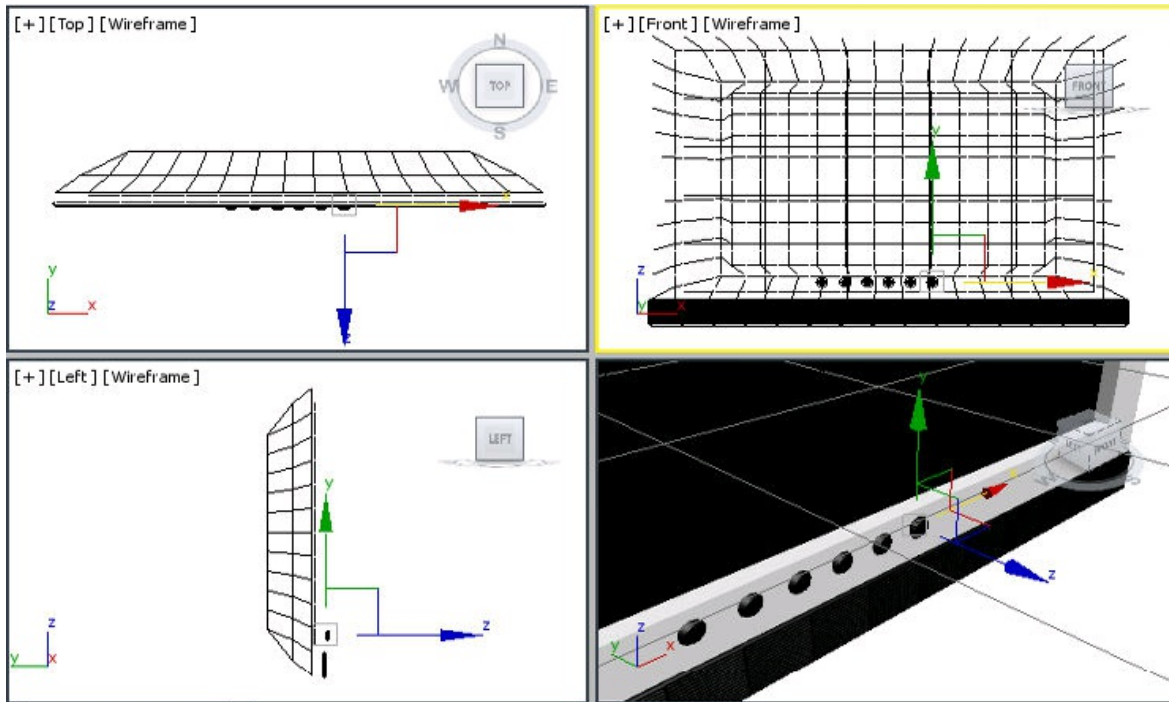

Figure 8-139 Alignment of b002, b003, b004, b005, and b006 in viewports
6. In the Front viewport, create five copies of *b01*. They are automatically named as *b002*, *b003*, *b004*, *b005*, and *b006*. Next, align them in the viewports, as shown in Figure 8-139.